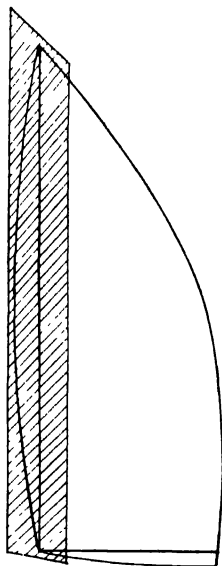

FIG. 28. Laying the first cloth of the spinnaker, the shaded portion representing the first cloth.
*Operation 2* Laying the cloth. Lay the first cloth (Fig. 28) with its edge along this line and with the end of the cloth overlapping the curved line of the foot by not less than 1 in. Cut off the roll so that the cloth overlaps the centre seam line by  $\frac{3}{4}$  in. Along the right hand edge of the first cloth, draw a sewing guide in pencil  $\frac{1}{2}$  in. in from the edge. Now, turning the remainder of the material round, but not over, and starting from the top, lay the second cloth so that it overlaps the first, the edge lying along the sewing guide (maintaining the same overlaps at the centre seam and foot).